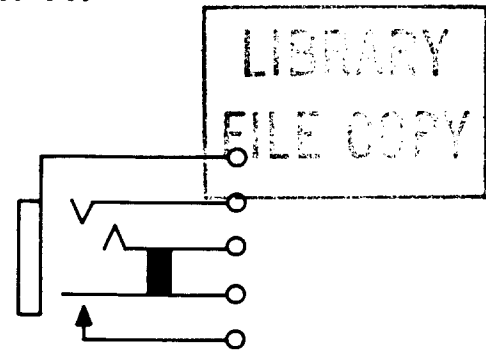

Fig. 2—408 Jack
2.02 **408:** This strip-mounted jack (Fig. 2) is used with the 309 plugs and a 145 jack mounting. This jack is furnished only on orders for jack mountings.